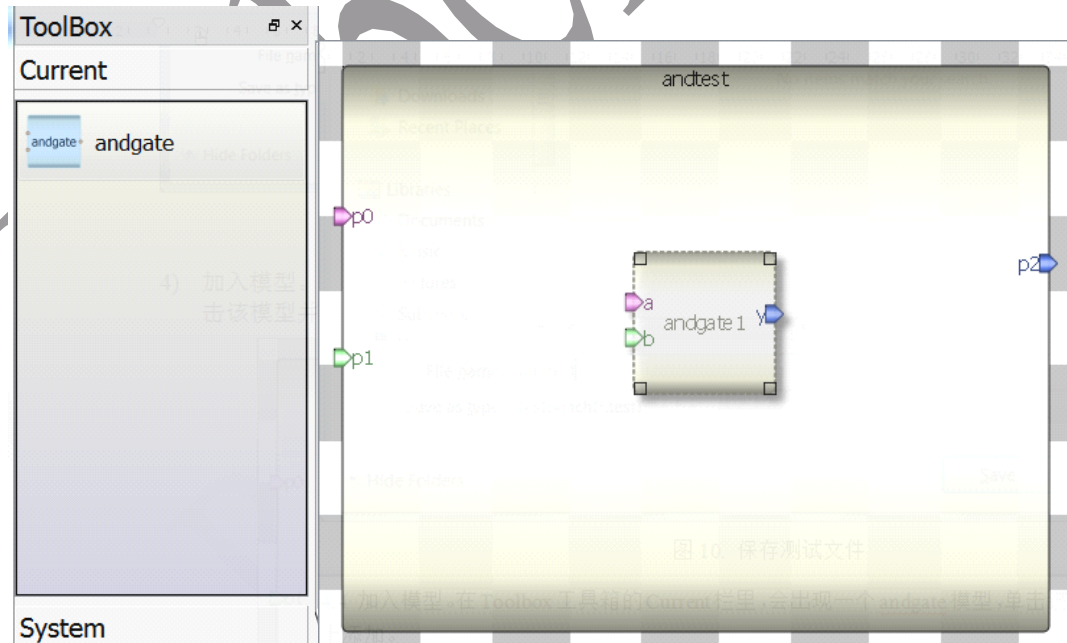

Fig. 12. Add model
- 4) Add model. Under category “Current” in Toolbox, there will be one model show up as fig.12. Click on this model and click on the testbench design, Robei will add this model in automatic.